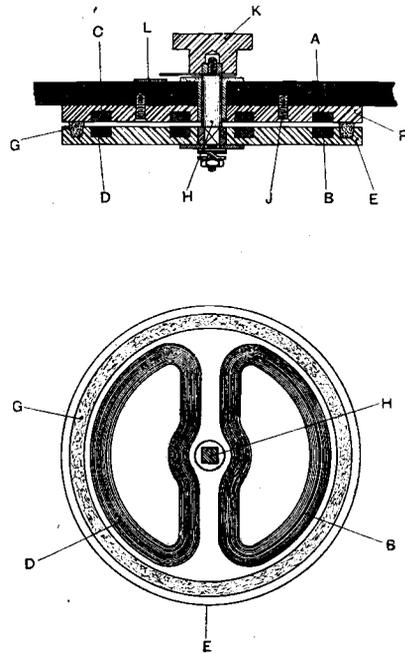

Fig. 14. A D type variometer.
(F) A D type variometer is shown in section and plan in Fig. 14. Referring to